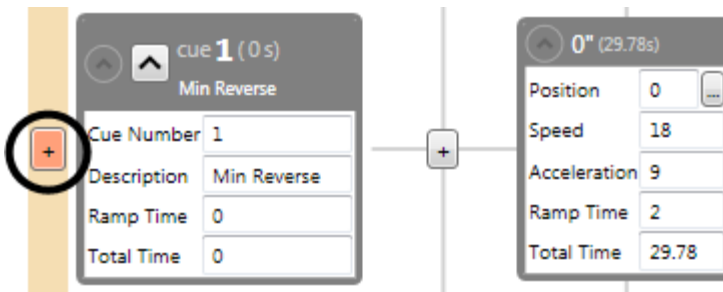

Figure 246
1. Click the **Add Link** button next to the **Child Cue** (Figure 246).